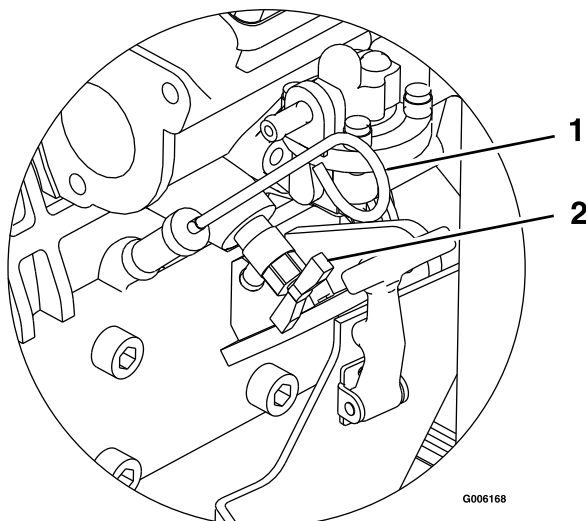

Figure 16
3. Drain coolant when engine is cool. Coolant may be drained from the radiator by removing the drain plug in the right rear corner. The engine block may be drained by removing the rear radiator hose and/or by opening the drain cock on the right-hand side of the engine block (see Figure 16).